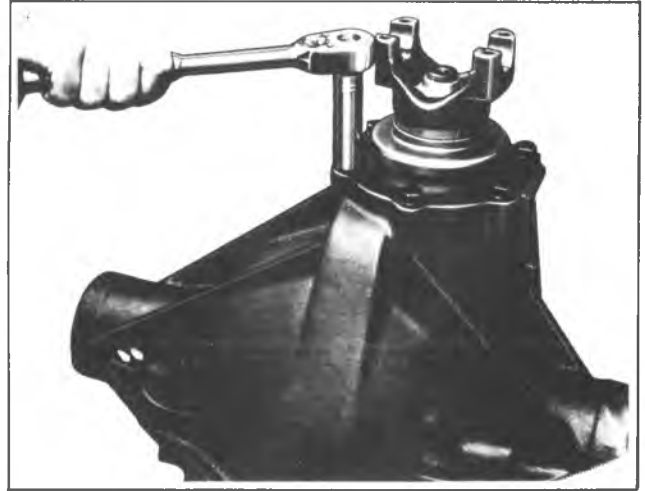

Fig. 7E--Removing Retainer Bolts
3. Remove the pinion bearing retainer bolts from the housing as shown in figure 7E.